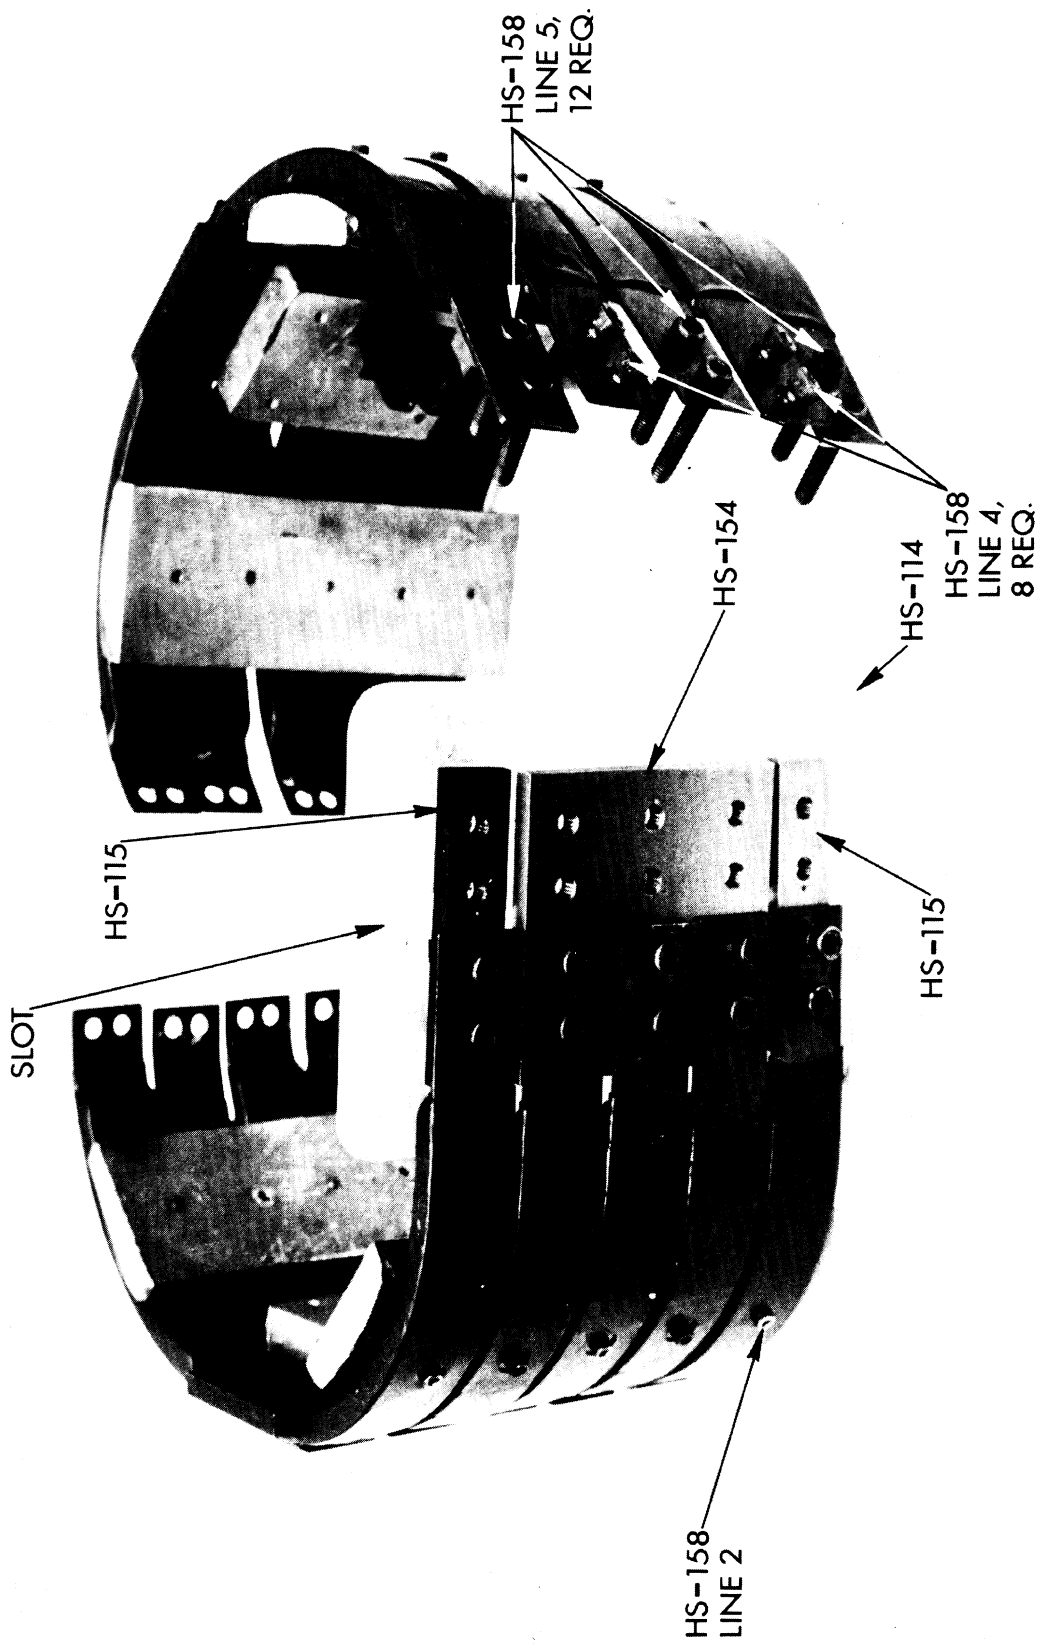

FIGURE 12
9.) Unbolt the damper to rib clevis, HS-105, from the left rib bar and switch it to the right side rib bar so the installation is symmetrically opposite to that shown in Figures 12, 16, and 30.